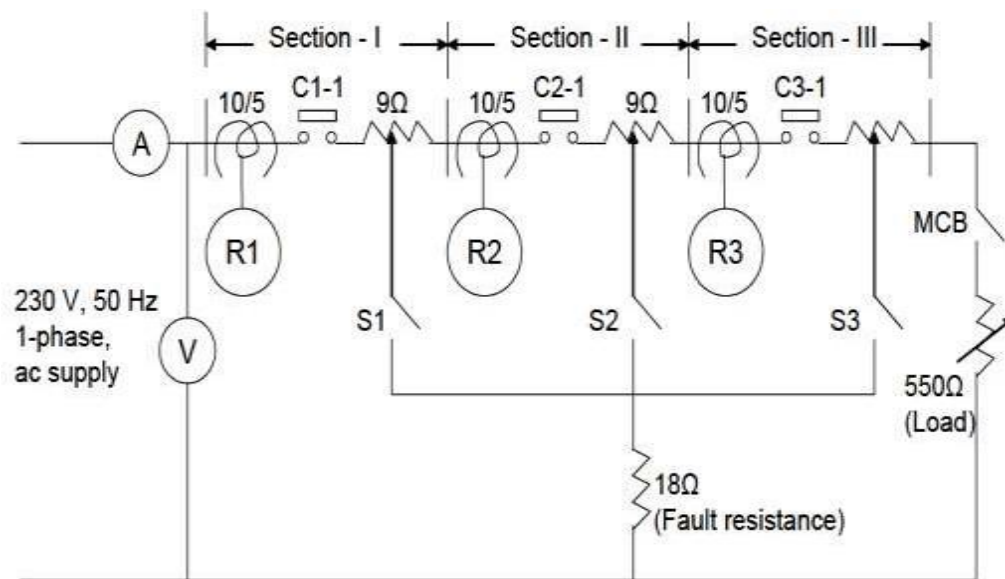

Fig. 1.3 Main AC Circuit in the Experiment.
Referring to a.c. circuit of fig. 1.3. A live model of a radial feeder fed from one end can be self-understood.
- Measure the fault currents for corresponding rheostat in minimum (zero resistance) and maximum (full resistance) positions and using the corresponding fault-switch S1, S2, or S3 (refer fig. 1.3). Maximum fault currents in sections I, II and III are denoted by F1, F2, F3 respectively and the minimum fault currents by F1', F2', F3' respectively. Deactivate the relays for this purpose. Record the readings in table 1